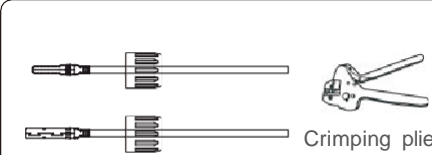

Figure 5.14 Crimp the contact pin to the wire
3. Crimp the contact pin to the wire using a proper wire crimper. (see Figure 5.14)